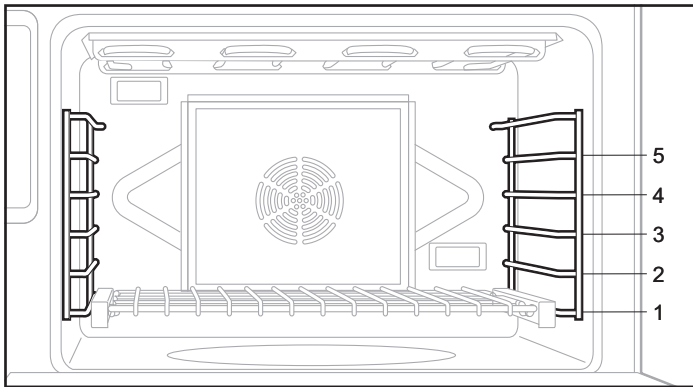

Figure 5: Large Oven Rack Positions
- Check each STAR® burner to make sure there is no gap between the STAR® burner cap and STAR® burner base. See *Figures 5 and 6: Correct and Incorrect STAR® Burner Cap Placement* to see examples of correct and incorrect placements of the STAR® burner cap.